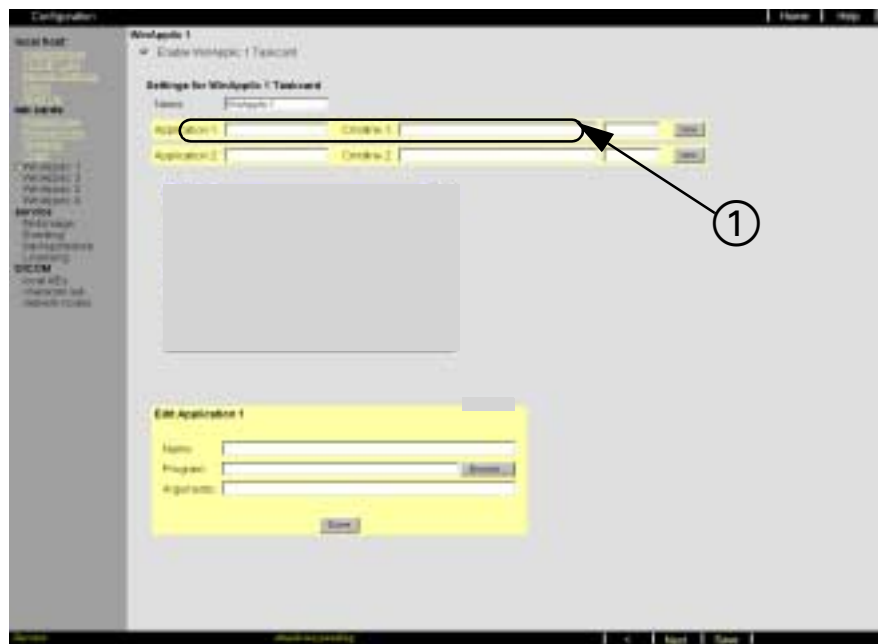

Figure 13-18 WinApplic Task Card Setting
4. Enter Name of Application Server in Application 1 (see ① in Figure 13-18) and continue with either step 4.1 or 4.2 below as appropriate: